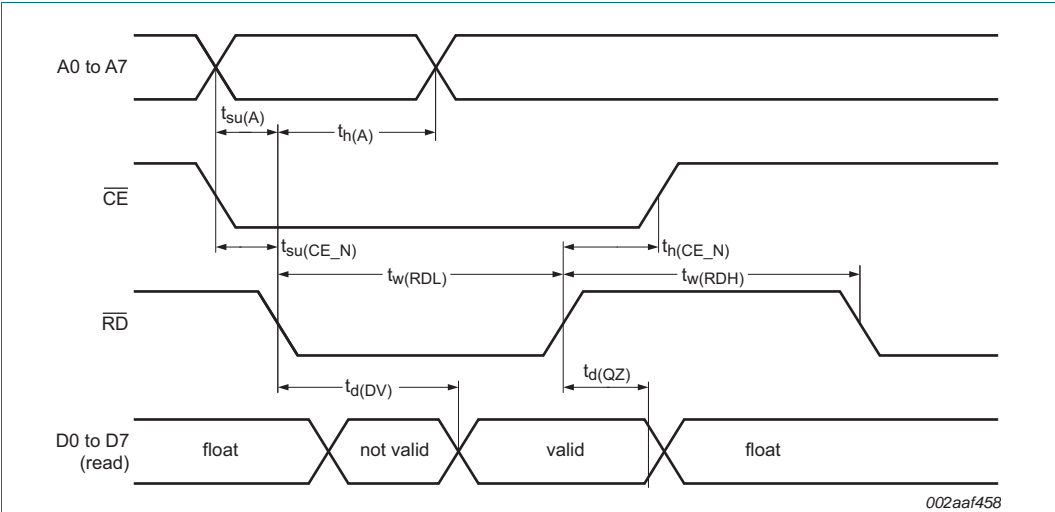

Fig 21. Bus timing (read cycle)
| Bus timing (see Figure 21 and Figure 23) | | | | | | |
- [2] All voltage measurements are referenced to ground (V_{SS}). For testing, all inputs swing between 0 V and 3.0 V with a transition time of 5 ns maximum. All time measurements are referenced at input voltages of 1.5 V and output voltages shown in Figure 21 and Figure 23.